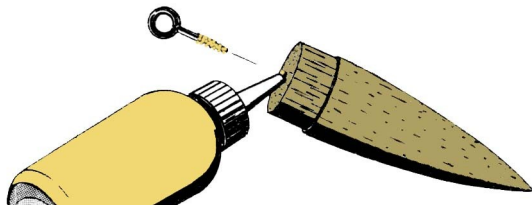

Figure 1
- **Step 2** Use the threads of the screw eye to cut matching threads into the base of the nose cone, then carefully reverse the screw eye out of the hole. As shown in Fig. 1, force glue deep into the hole, and coat the screw eye threads with glue, then reinsert the screw eye into the hole. Do not wipe away any glue. Set this aside to dry for about 30 minutes in a vertical attitude, pointing downward.